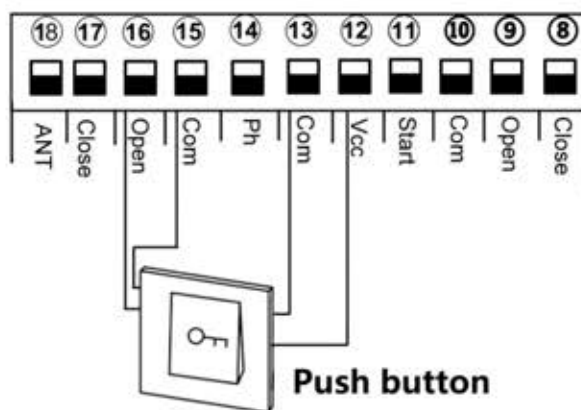

Fig 14
6.7. Connect to open device. Fig 14